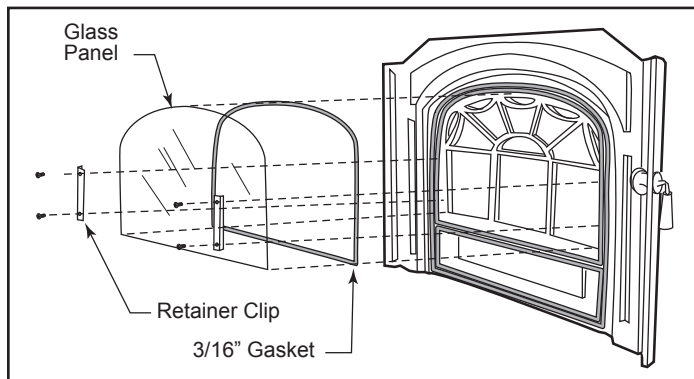

Figure 22 - Glass replacement.
- Open the door and carefully remove the glass by removing the two (2) clips (one per side) that hold the glass panel against the gasket in the arched door opening. Each clip is held in place with two (2) Phillips truss-head machine screws. (Figure 22)